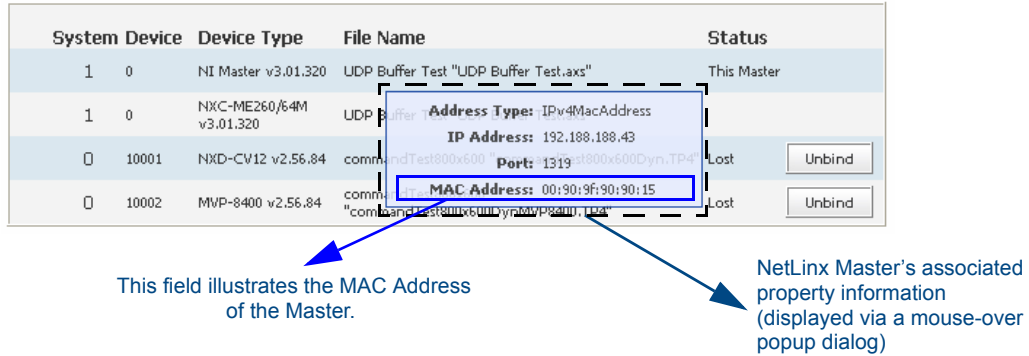
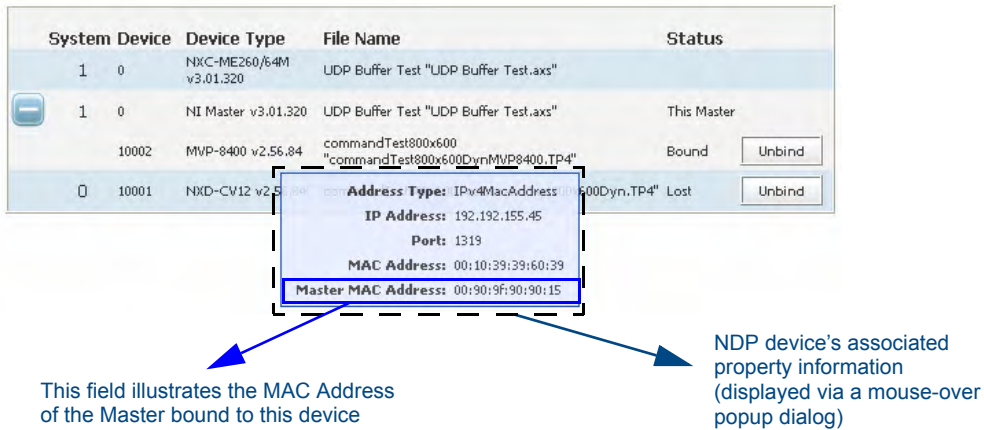

FIG. 61 Manage NetLinx Devices page - showing a sample mouse-over popup dialog
FIG. 62 Manage NetLinx Devices page - showing a sample mouse-over popup dialog
1. Hover the cursor over a particular device within the listing to display a mouse-over popup dialog (FIG. 61).
- If the device is one that is bound to a Master, the popup also displays an additional Master MAC Address field, which should match the MAC Address information for the bound target Master (FIG. 62). Notice that the Master MAC Address in FIG. 62 should match the MAC Address of the Master in FIG. 61.